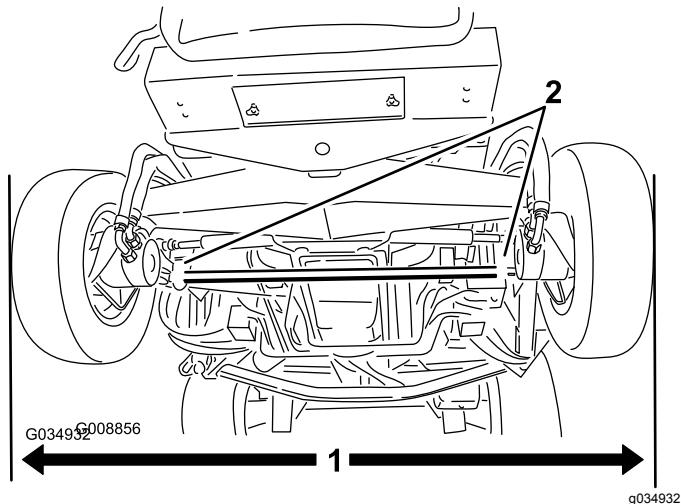

Figure 105
1. With the rear tires in a straight position, measure the outside distance (at axle height) at the front and rear of the rear tires (Figure 105).
2. To adjust the toe-in, loosen the clamps at both ends of the tie rods (Figure 105).